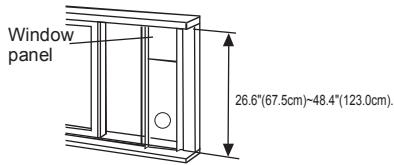

Fig.13
2. Attach the window slider kit to the windowsill. Adjust the length of the window slider kit according to the width of window, shorten the adjustable window kit if the width of window is less than 26.6 inches. Open the window sash and place the window slider kit on the windowsill. See Fig.13.